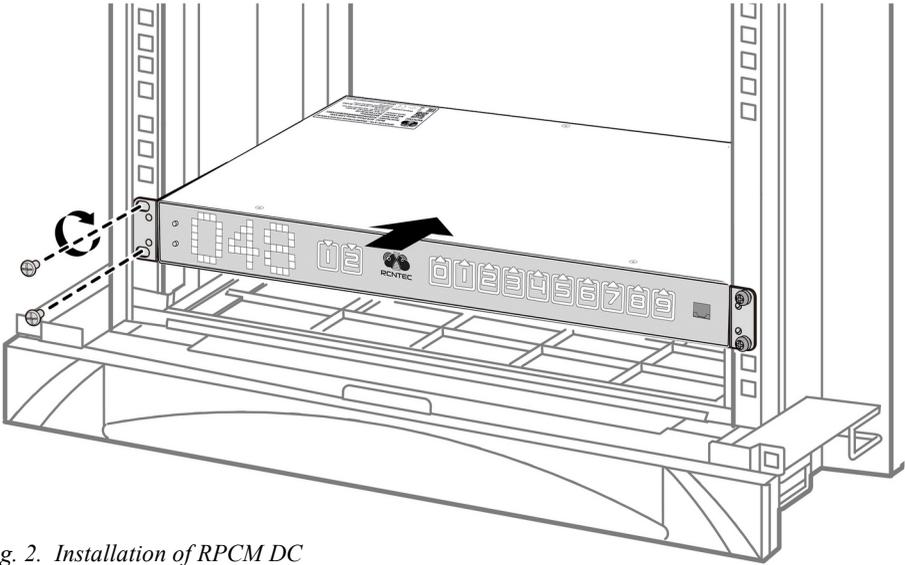

Fig. 2. Installation of RPCM DC
2. Place RPCM on the rack and secure it as shown in Fig. 2.